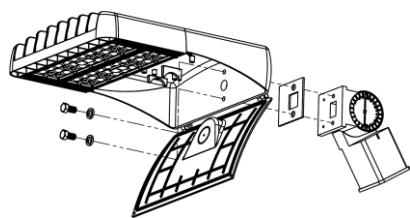

Figure 1
1. Mount fixture to slip fitter accessory. (see Figure 1)